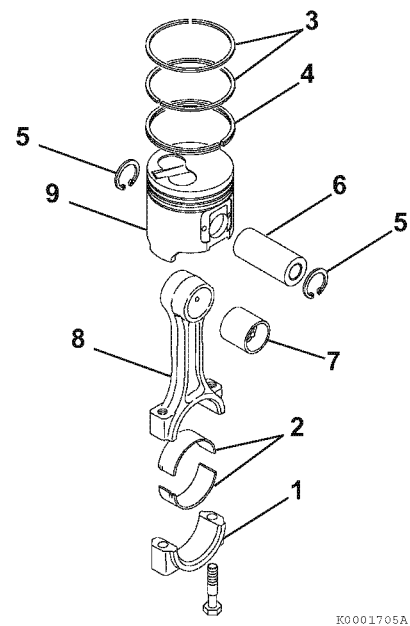

Figure 6-88
5. Lubricate and install the wrist pin (**Figure 6-88, (6)**) through the piston and connecting rod.
6. Reinstall the second circlip (**Figure 6-88, (5)**) and ensure it is securely seated in the groove.